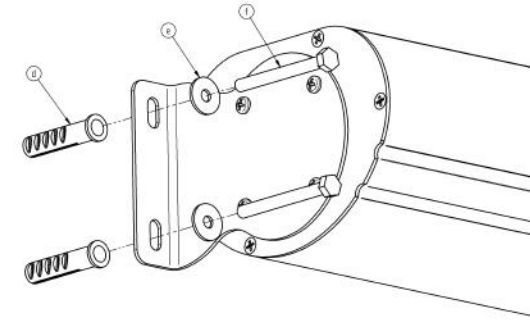

Fig. 2a
2) Drill openings Ø10 for rawlplugs (d) as indicated in column L4 on the Dimensions table where the screen is to be assembled (wall or ceiling). Position screen on the openings and mount with the use of screws (d, e, f) (Figures 2a and 2b).